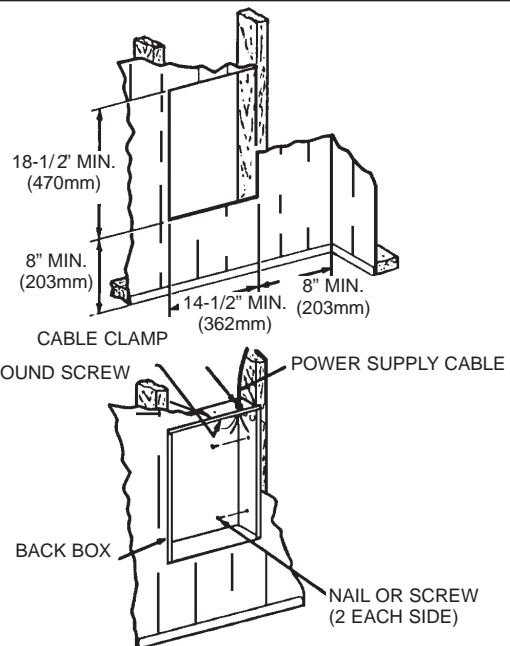

Fig. 2: Locating Recessed Back Box in Existing Construction
1. Provide a wall opening 14-1/2" (362mm) wide x 18-1/2" (470mm) high at the desired mounting height, but no closer than 8" (203mm) to adjacent wall. (See Figure 2).